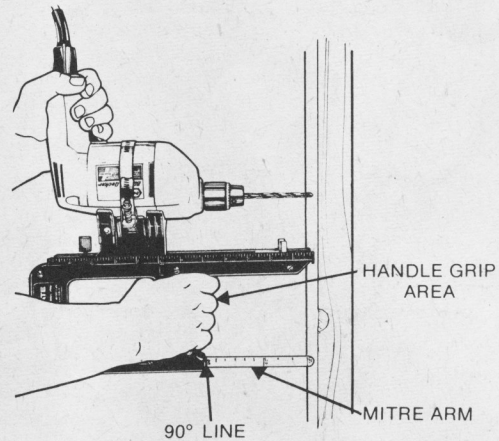

FIGURE 12
Used in the hand held mode the drill and holder are inserted in the opposite direction. The depth stop is also reversed as shown in Fig. 12.
For free hand drilling, the drill and holder are positioned as shown in Fig. 12.
- (b) With the drill and holder secured to the Guidemate body using the lock knob position the drill bit for drilling as shown in Fig. 12. Note position of hands.